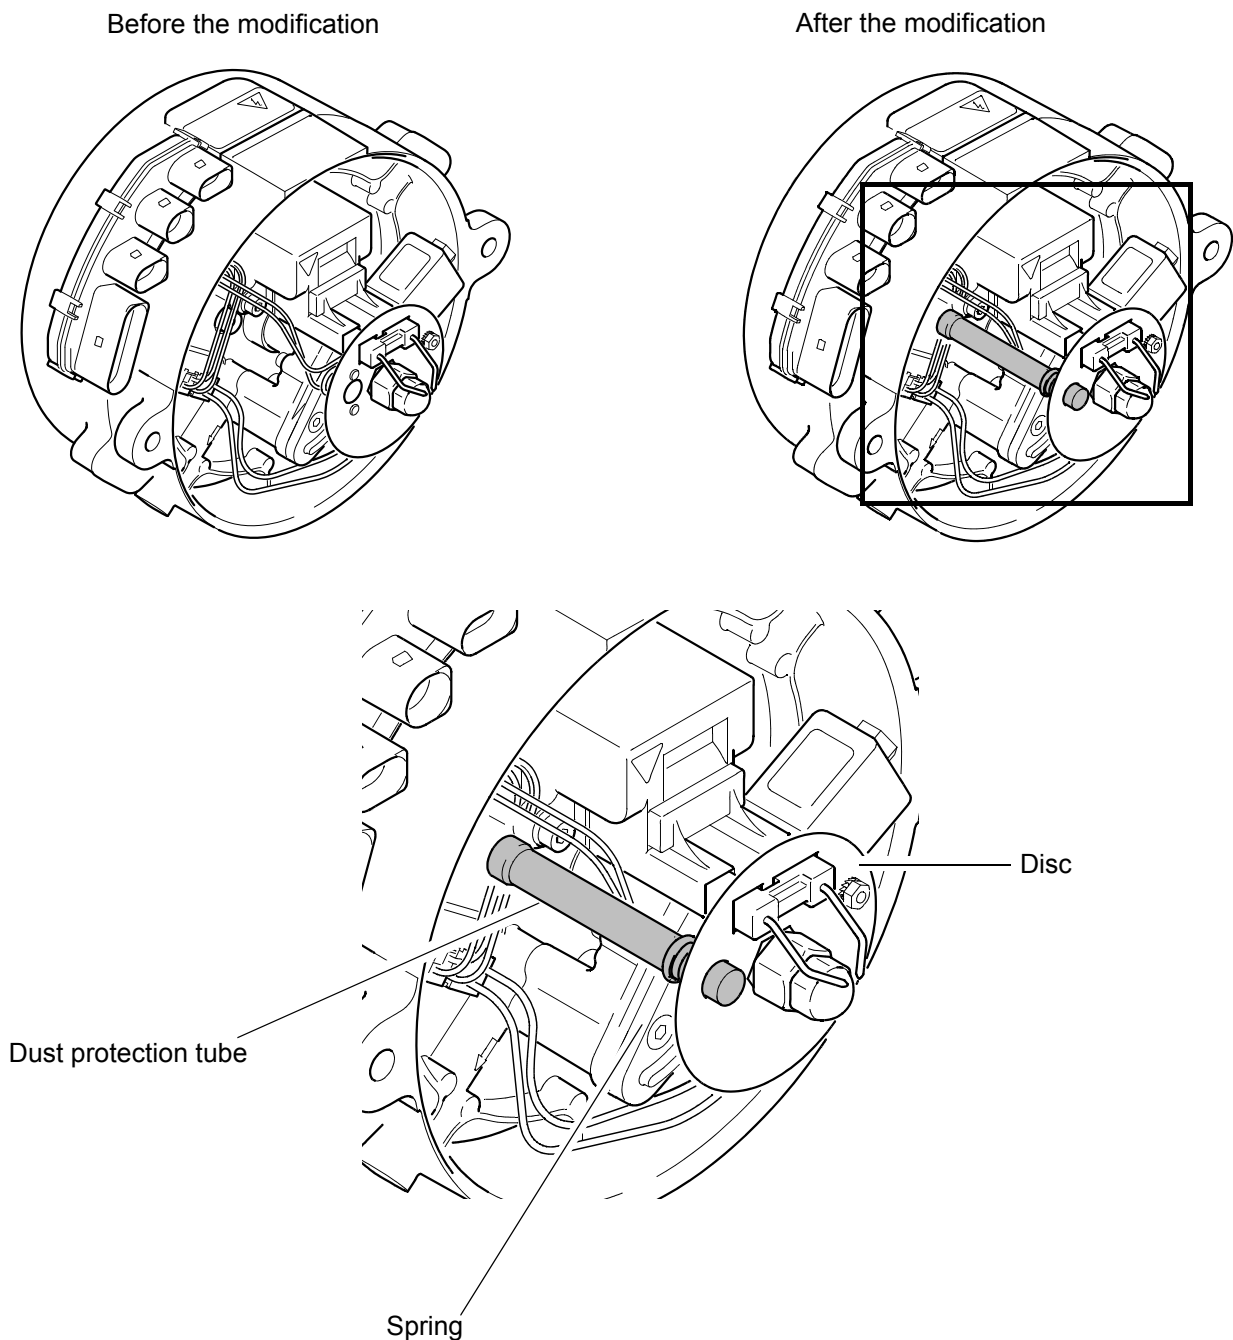
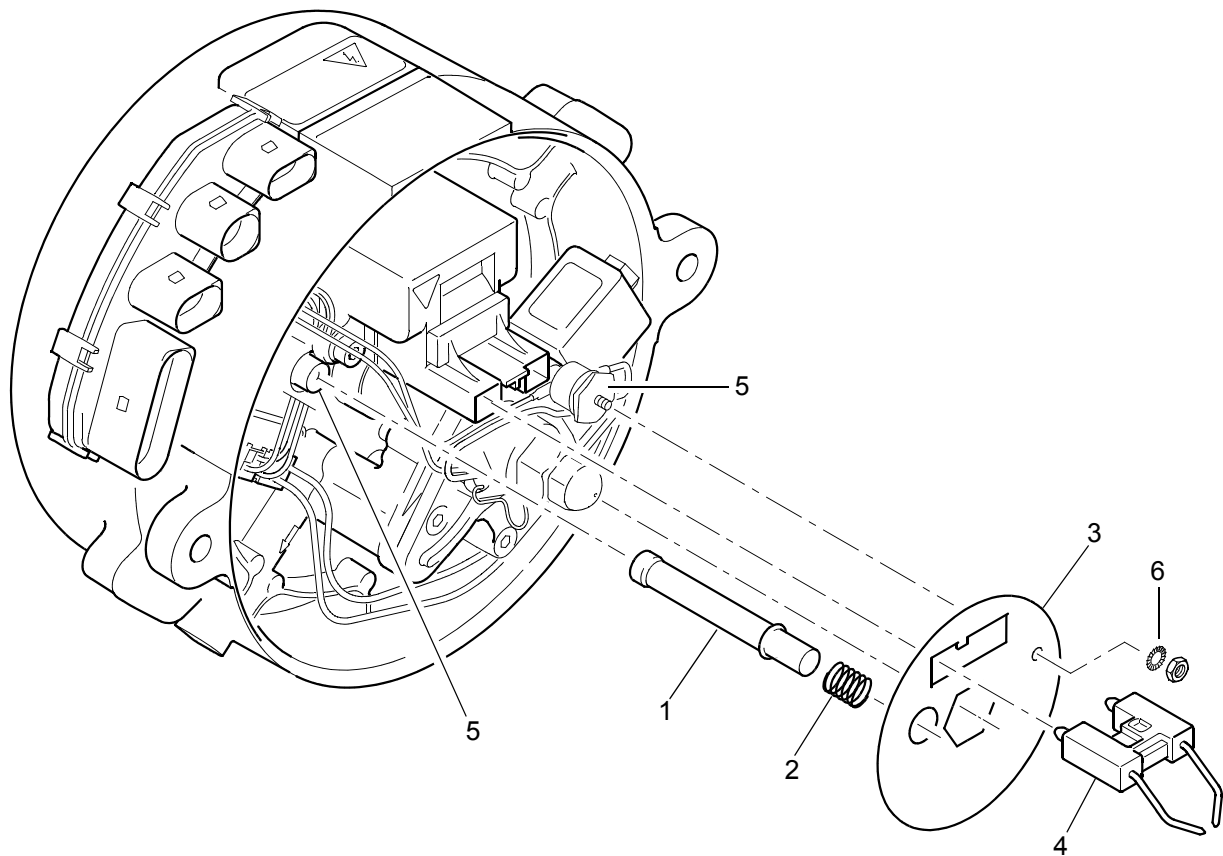

Fig. 901 Flame guard dust protection
Fig. 902 Flame guard dust protection - Installation
The flame guard can be retrofitted with a dust protection. This increases the reliability of its function and reduces maintenance. The dust protection consists of 3 parts (see Fig. 901/ Fig. 902): dust protection tube (1), spring (2) and disc (3).
2. Remove ignition electrodes (4, Fig. 902), refer to 8.6.
3. If installed, remove thermostat (5).
4. Remove disc (3) and discard it.
5. Pre-assemble new disc (3), tube (1) and spring (2).
6. Place new disc (3), tube (1) and spring (1) into position: